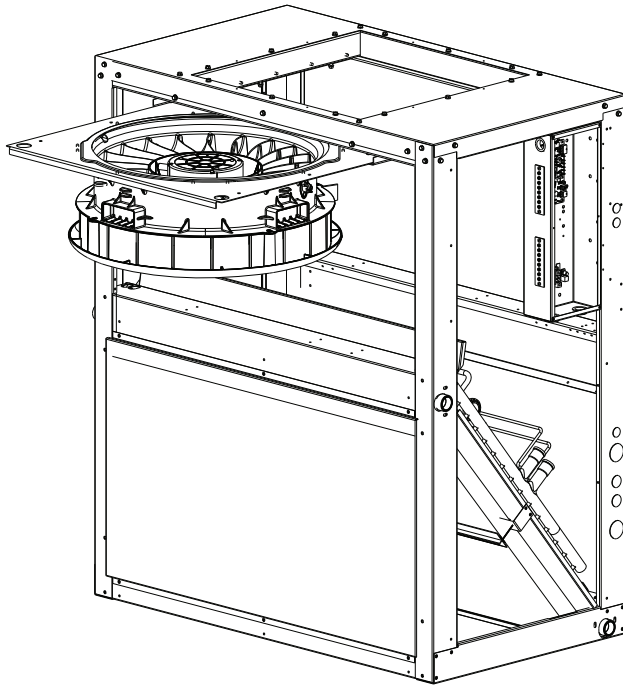

Fig. 49 — Slide Out Fan Deck Assembly
5. Slide fan deck assembly out of the panel opening that is being used. Side panel access will not be allowed. See Fig. 49.